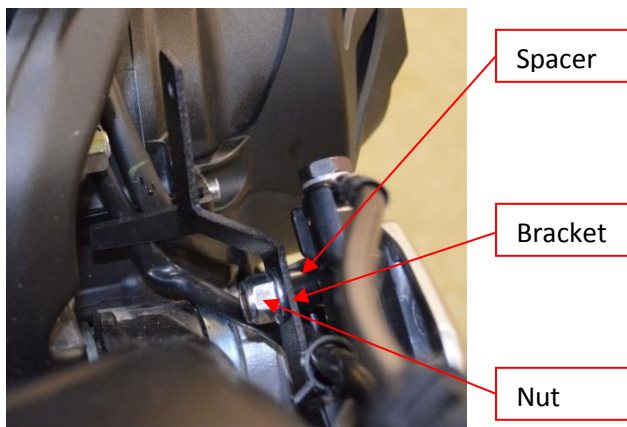

Figure 2: Correct Assembly Sequence
7. Assemble 'Included Parts Item 6' (M8x1.25 flange head lock nut) onto master cylinder mounting screws. Ensure brake switch harness is routed between master cylinder and bracket but is NOT pinched! Torque to 15 lb-ft. Reference Figure 2 for proper component assembly.